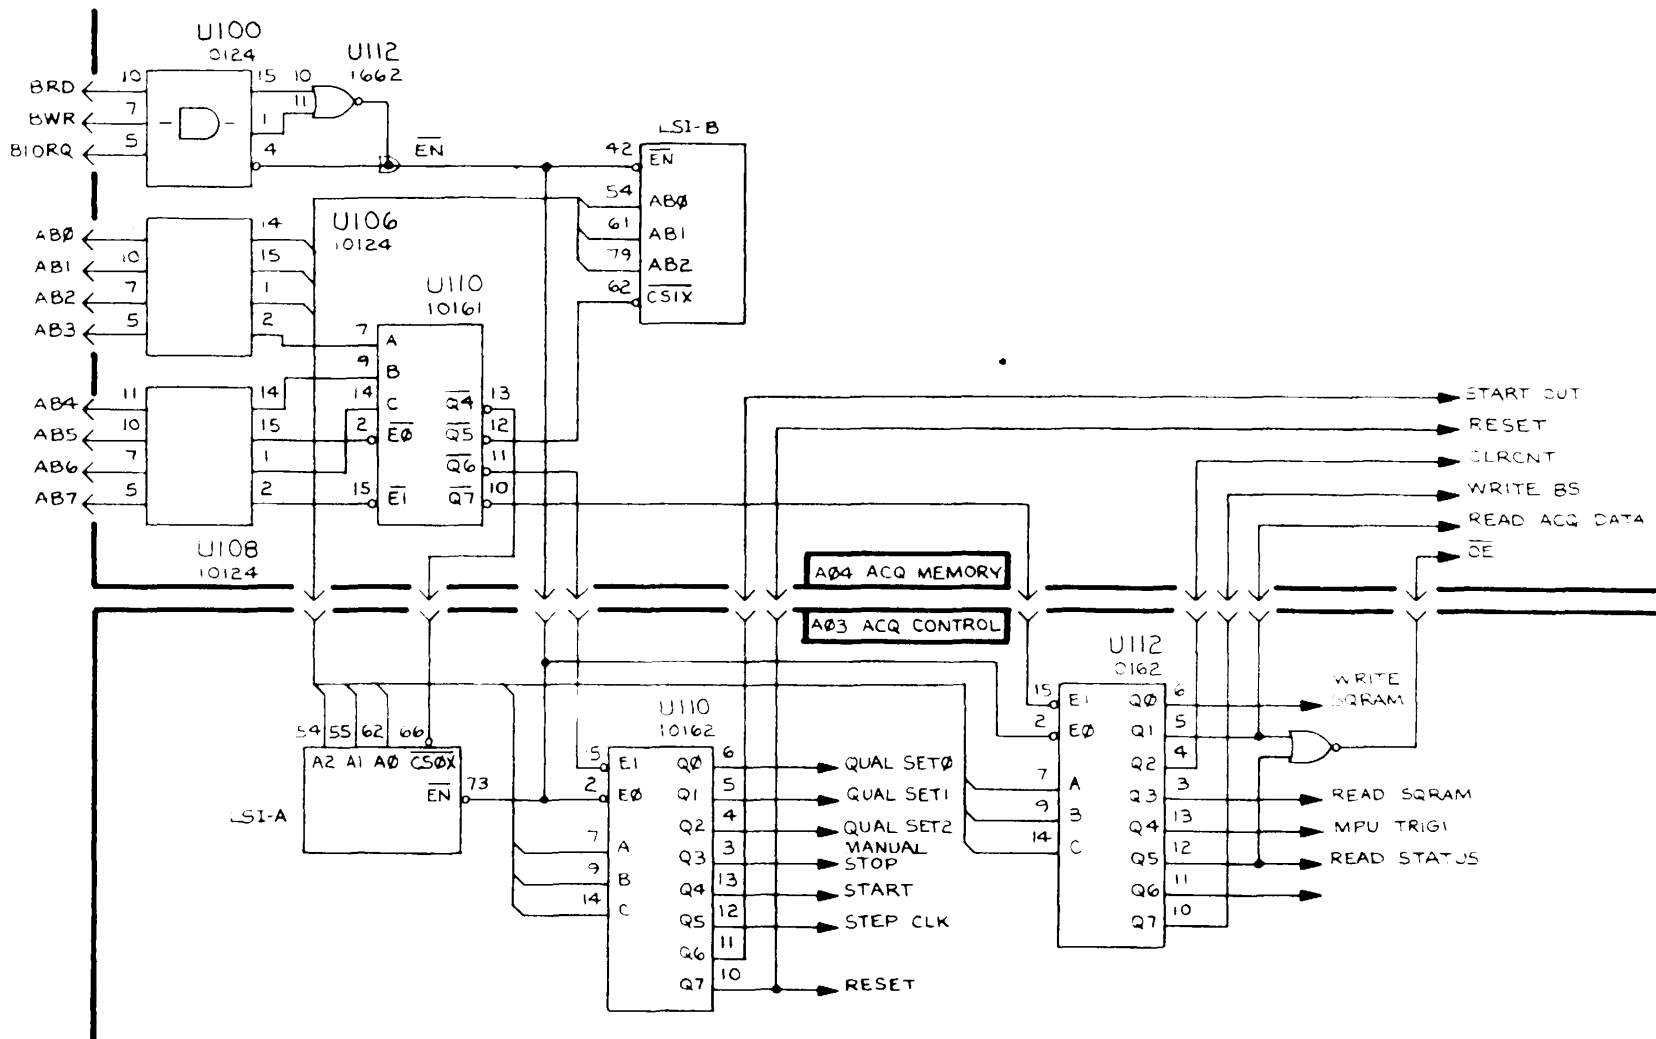

Figure 7-5. 318 A03 and A04 Partial ACQ address assignment.
**Description:** Refer to Figure 7-5. All the ROMs (ROM1 through ROM7) are located on the A05 ROM/Threshold board.